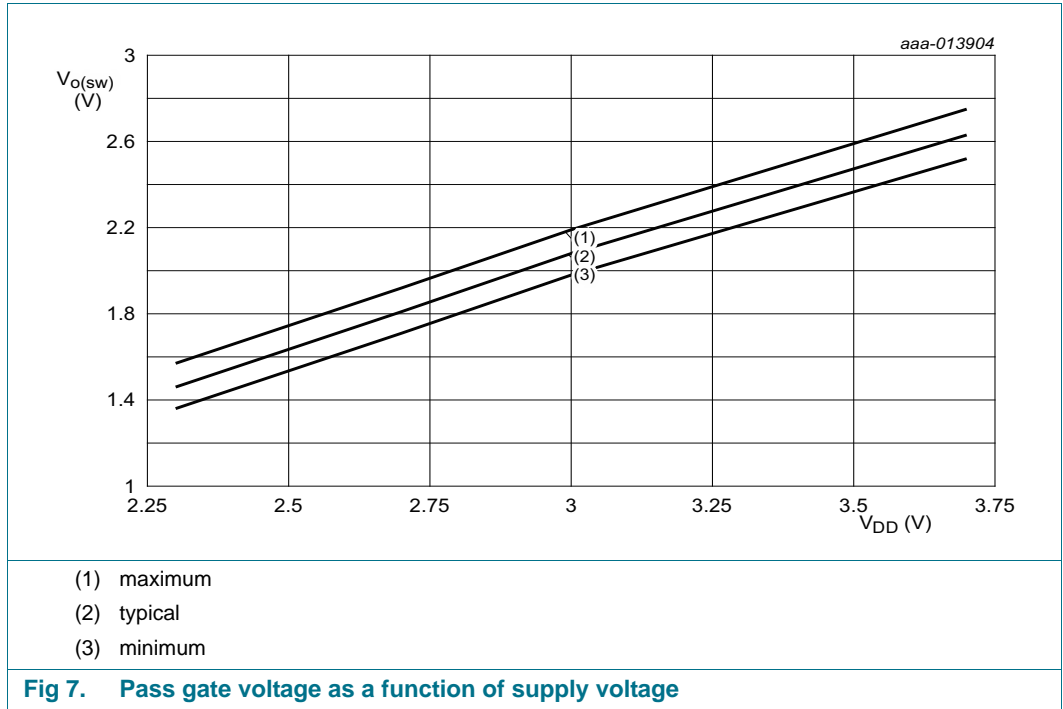

Fig 7. Pass gate voltage as a function of supply voltage
Figure 7 shows the voltage characteristics of the pass gate transistors (note that the graph was generated using the data specified in Section 18 “Static characteristics” of this data sheet). In order for the PCA9641 to act as a voltage translator, the VO(SW) voltage should be equal to, or lower than the lowest bus voltage. For example, if the main buses were running at 3.3 V, and the downstream bus was 2.5 V, then VO(SW) should be equal to or below 2.5 V to effectively clamp the downstream bus voltages. Looking at Figure 7, we see that VO(SW)(max) will be at 2.5 V when the PCA9641 supply voltage is 3.375 V or lower so the PCA9641 supply voltage could be set to 3.3 V. Pull-up resistors can then be used to bring the bus voltages to their appropriate levels (see Figure 20).